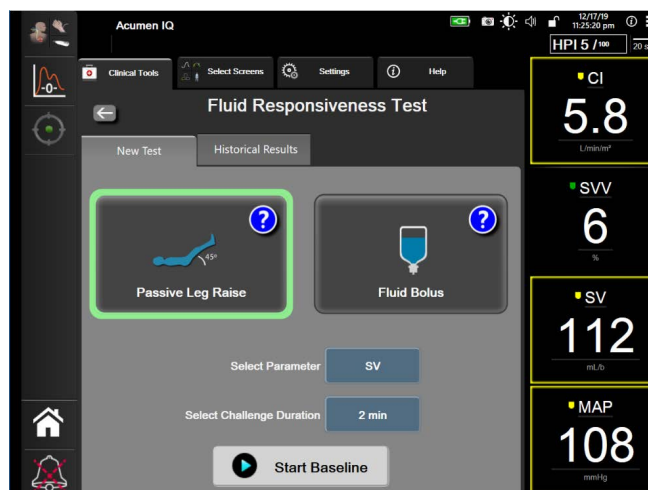

Figure 14-19 Fluid Responsiveness Test – New Test Screen
- 3 On the **New Test** tab (see Figure 14-19), touch the desired test type: **Passive Leg Raise** or **Fluid Bolus**.